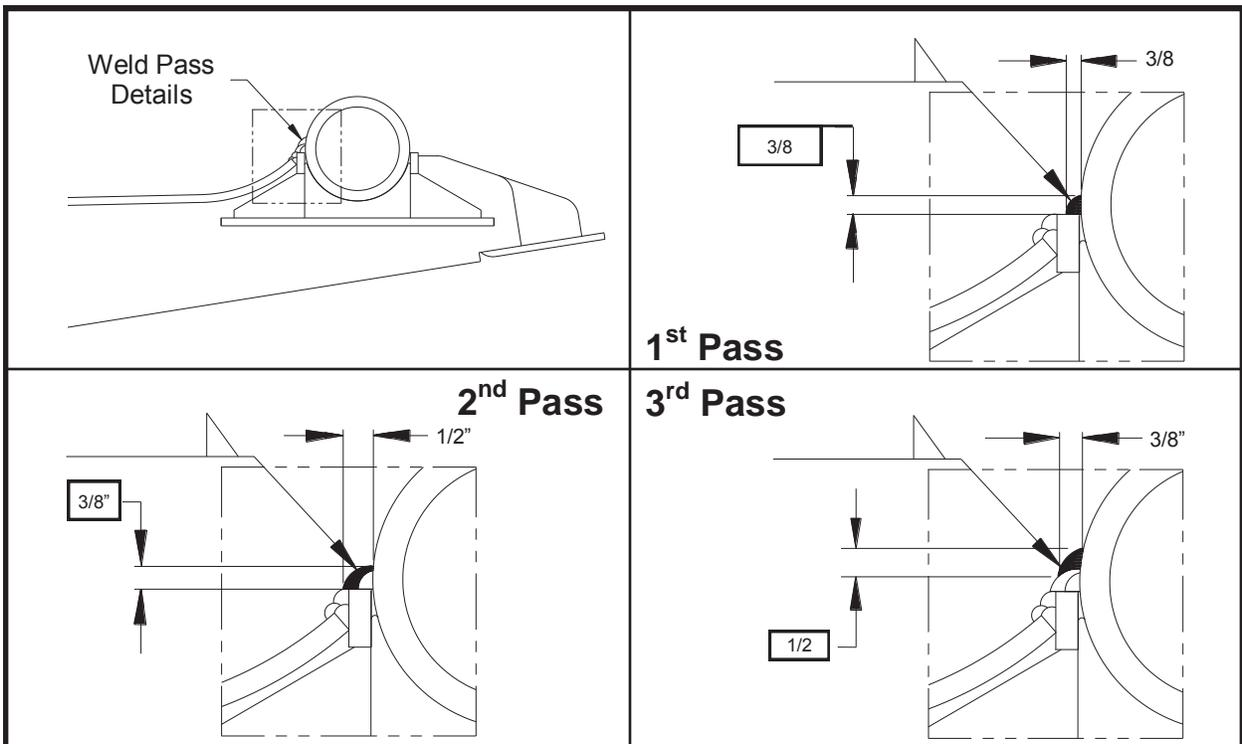

Figure 6
1. Three passes are required on each area where the axle is welded to the arms. **Figure 6** shows the size of the weld of each pass.